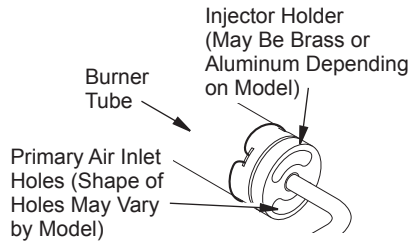

Figure 20 - Injector Holder On Outlet Burner Tube
2. Inspect burner, pilot and primary air inlet holes on injector holder for dust and dirt (see Figure 20).